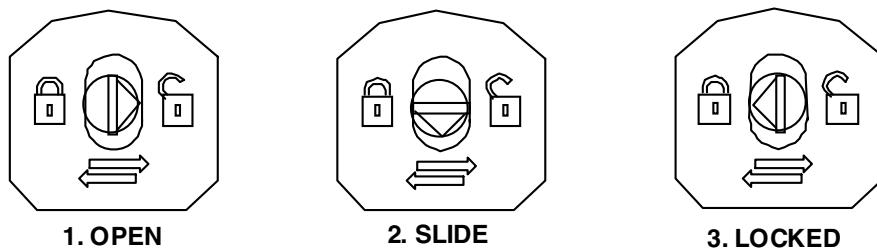

Figure 7. Baseplate Locking Device
Mounting the units onto the DIN-rail only requires a blade screwdriver that fits securely into the baseplate locking screw (1 mm slot). For further details on mounting procedure, see Figure 7.
- Rotate the locking device to the SLIDE position (2) on the unit baseplate, Figure 7.